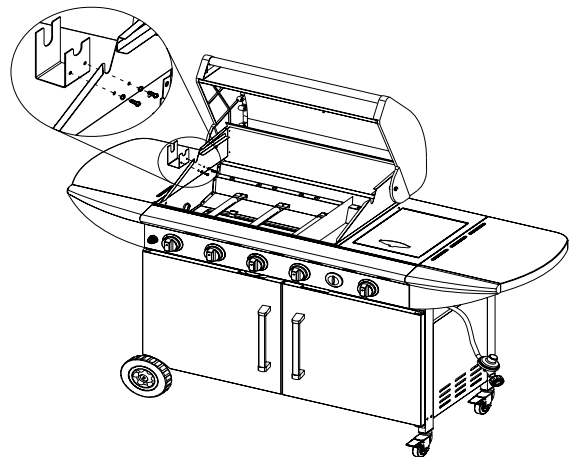

Figure 17
Attach rotisserie motor bracket to firebox left side panel using (2) 1/4 x 1/2" Phillips head screws and (2) 1/4" lock washers. (Fig.17)